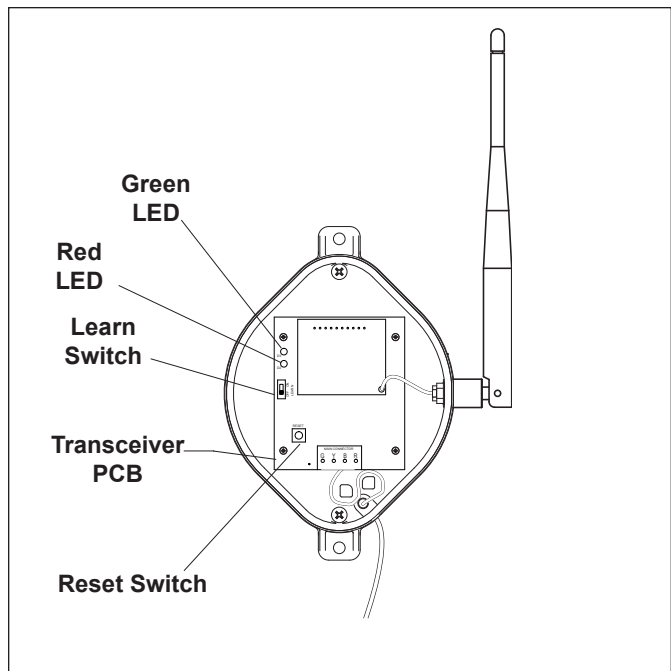

Figure 6. AquaPalm Transceiver J-Box - Internal View
1. At the Transceiver J-box, remove the cover to expose the PCB (see Figure 6).